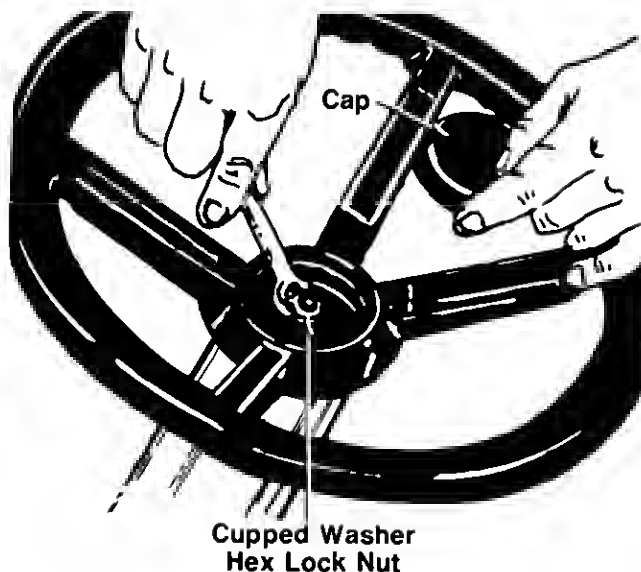

FIGURE 8.
16. Place **steering wheel (C)** in position desired. Make certain the steering wheel is seated over the end of the steering tube.
- ← 17. Place the **cupped washer** with the cupped side down over the **steering shaft**. Secure with 5/16" **hex lock nut**. See figure 8.